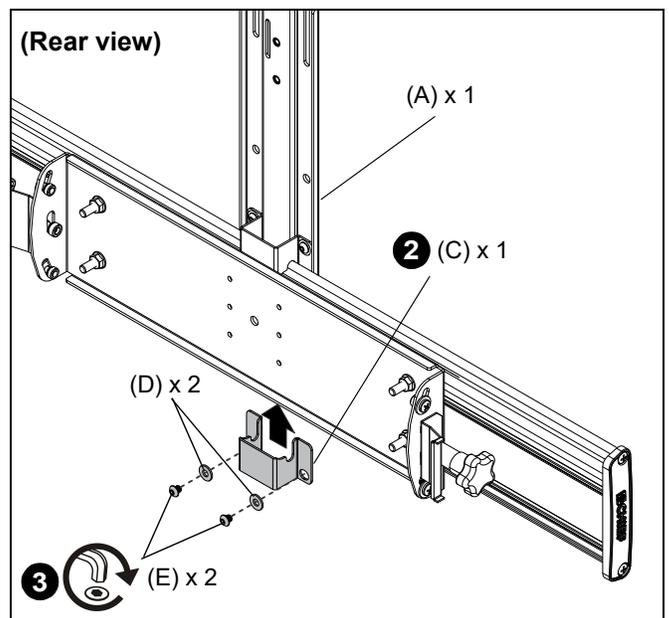

Figure 16
2. Slide edge rail bracket (B) underneath head assembly, lining up holes on edge bracket to holes on upright assembly (A). (See Figure 16)
3. Use two 1/4-20 x 1/4" button head cap screws (E) and two small washers (D) to secure edge rail bracket (B) to upright assembly (A). (See Figure 16)